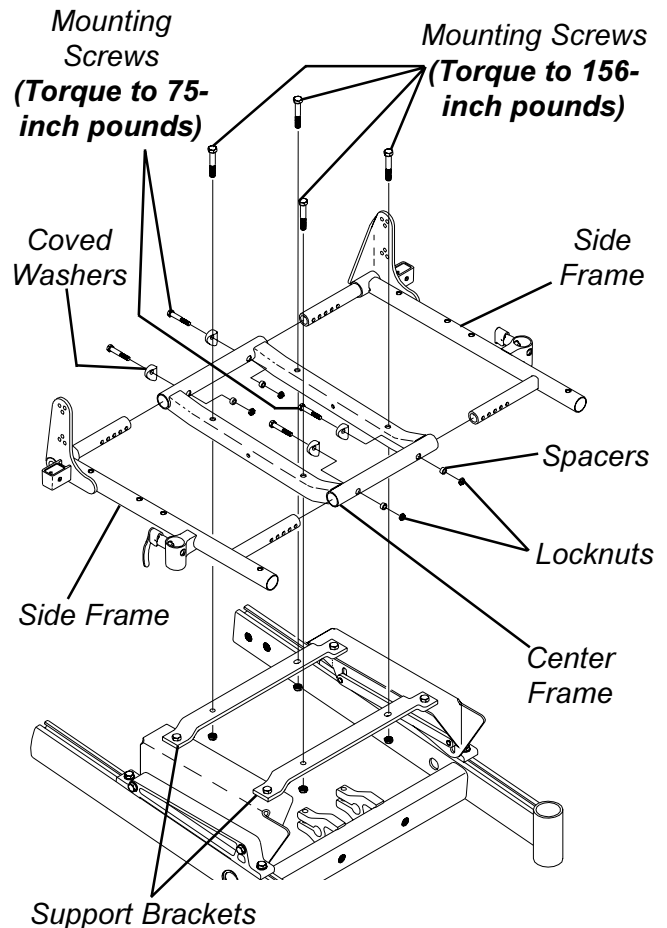

FIGURE 3- CHANGING SEAT DEPTH - ADJUSTABLE SEAT FRAME
**Adjustable Seat Frame (FIGURE 3)**